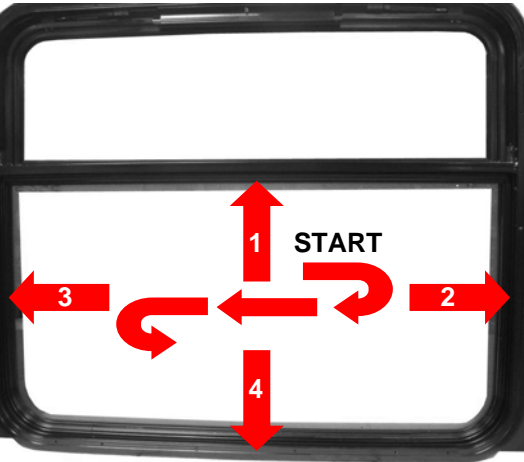

FIGURE 3-9. REPLACE CLIPS (IN ORDER SHOWN)
- 2) Refer to **Figure 3-9**. Replace clips starting at top and work clockwise.